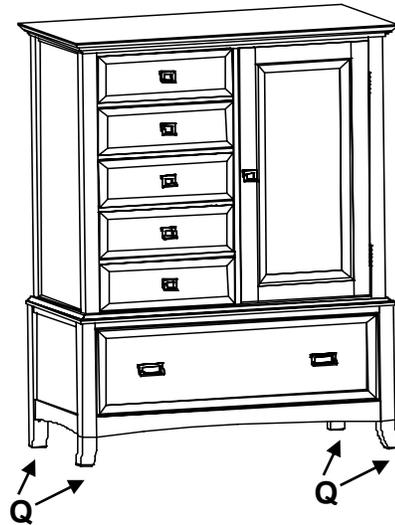

Fig. 1
1. Place the chest at its final destination. Rotate the Adjustable Glides (Q) on the bottoms of the legs until the unit is level. See Figure 1.